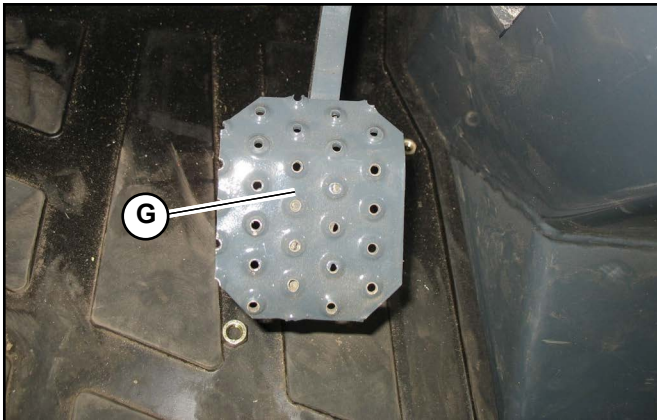

Fig. 35 – Brake/Inching Pedal
**NOTE:** Pressing the inching pedal (Fig. 35) reduces/stops hydraulic flow to the travel drive, allowing more power for lift structure operation.
Brake/inching pedal (G, Fig. 35) controls gradual travel drive transmission disengagement and braking.